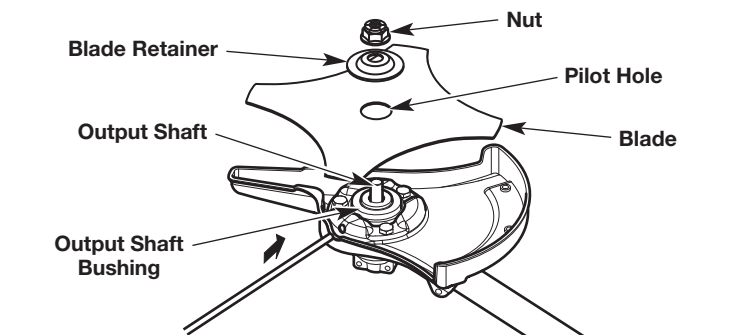

Fig. 30
4. While holding the locking rod in place, put the blade on the output shaft bushing (Fig. 30).
**WARNING:** To avoid serious personal injury, make sure that the pilot hole on the blade is sitting flat against the output shaft bushing (Fig. 30). The unit will vibrate and the blade may fly off if the blade is not centered.
5. Place the blade retainer on the output shaft with the flat surface against the blade (Fig. 30).
6. Screw the nut onto the output shaft (Fig. 30).